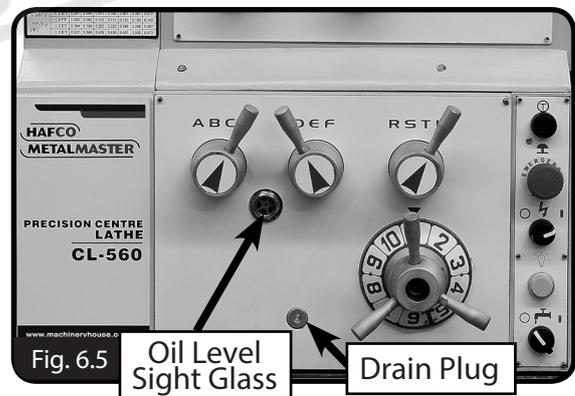

Fig. 6.5
The quick change gearbox is oil-bath lubricated to insure the long life of the gears and bearings. It is recommended the lubricant be changed every twelve months with a 20W non-detergent oil, or an equivalent gearbox machine oil. The oil level can be checked by viewing the sight glass (Figure 6.5) The oil level should be kept so that the oil is level to the middle of the sight glass.
1. Drain the gear box. See Fig. 6.5 for the drain plug.